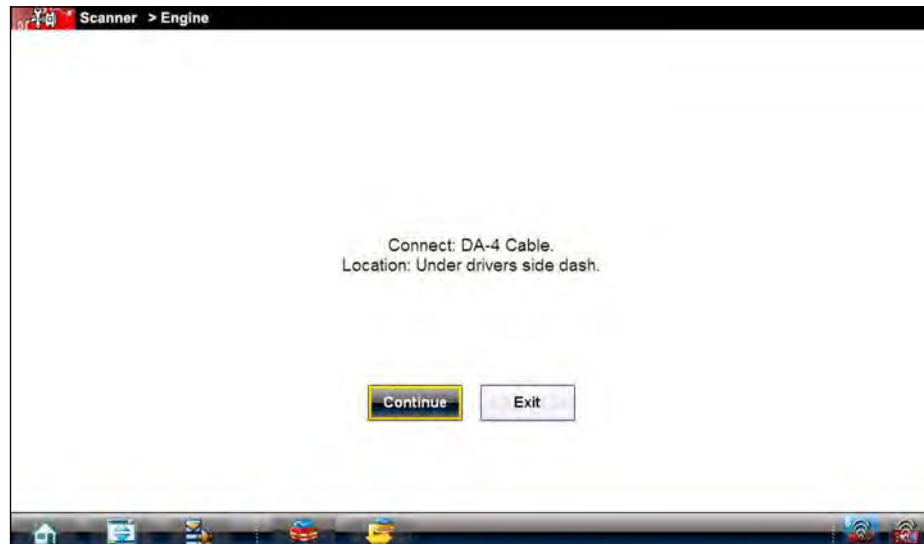

Figure 5-9 Sample vehicle connection message
Make a selection from the systems available for testing list and instructions for connecting the Scanner to the vehicle with the data cable display on the screen (Figure 5-9).
1. Follow the on-screen instructions for connecting to the vehicle (Figure 5-9).